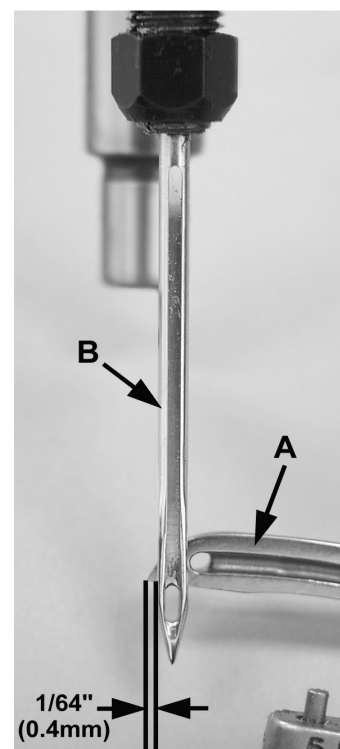
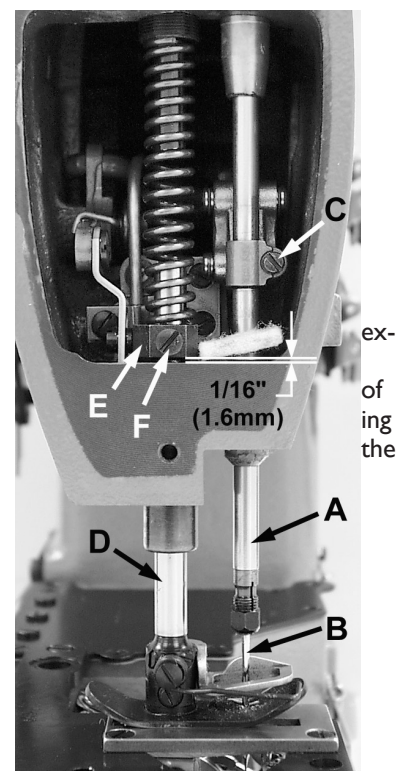

Fig 8
Fig 14
Turn handwheel to position point of looper (A, Fig. 8) 1/64" (0.4mm) past the left side of needle (B). At this time the top of the eye of the needle (B) should be even with the under side of the looper (A). To make adjustment, loosen screw (C Fig. 14) and move needle bar (A) up or down as required.
Height of presser bar (D, Fig. 14) is set correctly if it is possible to remove the presser foot when the foot lifter lever, located at the back of the machine and tending above the upper crank chamber cover is fully actuated (pulled to the right). There should be approximately 1/16 inch (1.6mm) clearance between lower surface the presser bar connection and guide (E) and bottom surface of head opening in the bed when foot lifter lever is released and presser foot lying flat on throat plate with feed dog below throat plate.
Regulate the presser spring regulating screw (A, Fig. 14) so that it exerts only enough